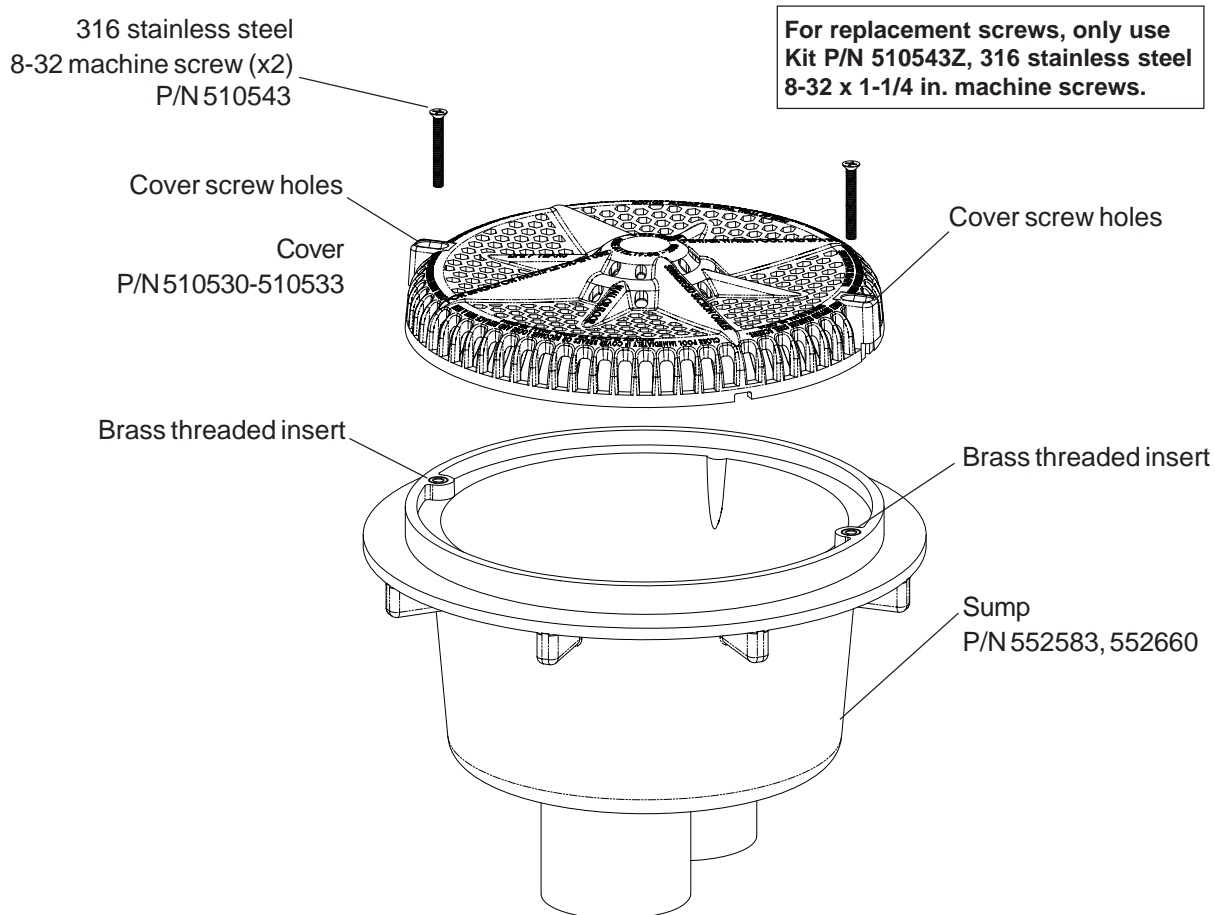

Figure 1
3. Mount the drain cover on top of the sump (see Figure 1).
5. Install the two (2) 316 stainless steel 8-32 machine screws (provided) into the holes in the top of the cover. Using a No. 2 Philips head screwdriver, tighten each retaining screw to a **torque value of 10.00 (minimum) to 15.0 (maximum) in/lbs** to secure the cover. DO NOT OVER TIGHTEN THE SCREWS. DO NOT ASSEMBLE WITH POWER TOOLS.